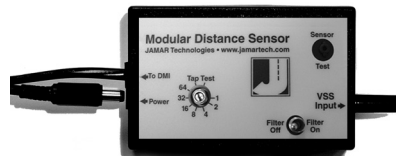

Fig. 6 – Power Plug-in
6. Route the Red (+12 Volts) and Black (Ground) power cables directly to the vehicle's battery. This can be done using the same feed through location that was used for the VSS Cable. If, out of convenience, you elect to obtain the +12VDC and ground from a fuse panel or other location under the dashboard, **make sure it is a constant 12 volt source and not** one that is switched off with the ignition key. We also recommend the circuit should have as few devices as possible to avoid voltage fluctuations from Turn Signals, Brake Lights, etc. Plug the power cable into the hole labeled *Power* on the MDS, as shown in Figure 6. A diagram of the complete installation for the MDS is shown on the back page.